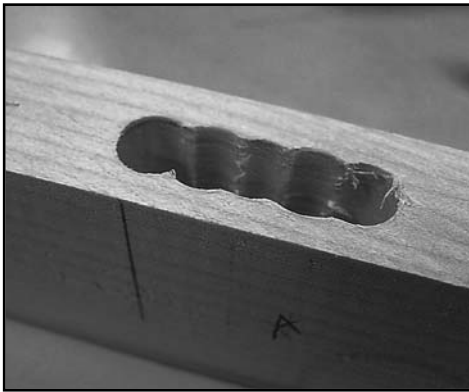

Fig. 9
10. Part "A" is complete. (Fig. 9)